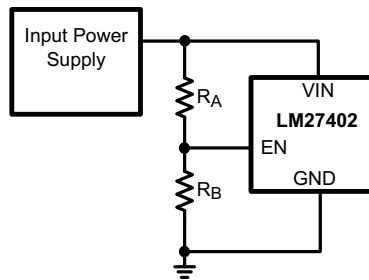

Figure 28. Enable Sequencing
If enable (EN) is not controlled directly, the LM27402 can be pre-programmed to turn on at an input voltage higher than the UVLO voltage. This is done with an external resistor divider from  $V_{IN}$  to EN and EN to GND as shown in Figure 28.
The internal current source  $I_{\text{CS-}}$  is powered from the input voltage rail,  $V_{\text{IN}}$ . The minimum voltage required to drive that current source is 1 V from  $V_{\text{IN}}$  to  $V_{\text{OUT}}$ . If a low-dropout condition occurs where  $V_{\text{IN}} - V_{\text{OUT}} < 1 \text{ V}$ , the LM27402 may prematurely initiate hiccup mode. There are multiple options to avoid this situation. The first option is to enable the LM27402 after the input voltage has risen 1 V above the nominal output voltage as seen in Figure 28. The second option is to lower the comparator common-mode voltage shown in Figure 34 such that the  $I_{\text{CS-}}$  current source has enough headroom voltage.